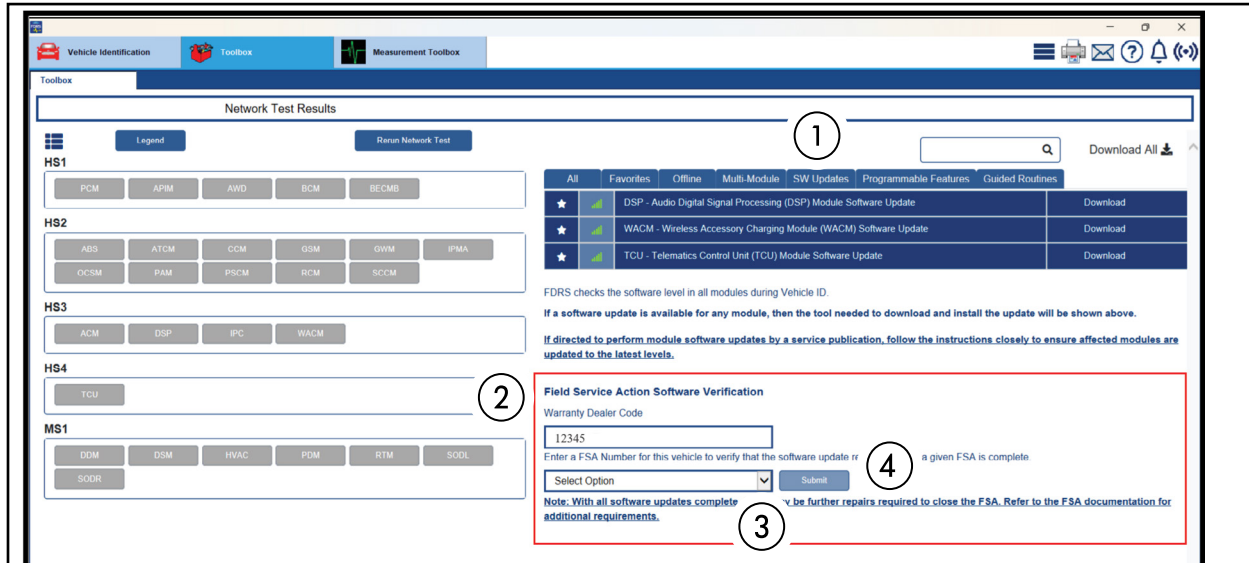

FIGURE 1
23. Select the **SW Updates** tab (1). See Figure 1.
24. **Warranty Dealer Code** (2) - Change the displayed PA code as necessary. See Figure 1.
25. Select the **FSA** (3) from the drop-down menu. See Figure 1.
26. Select **Submit** (4). See Figure 1.